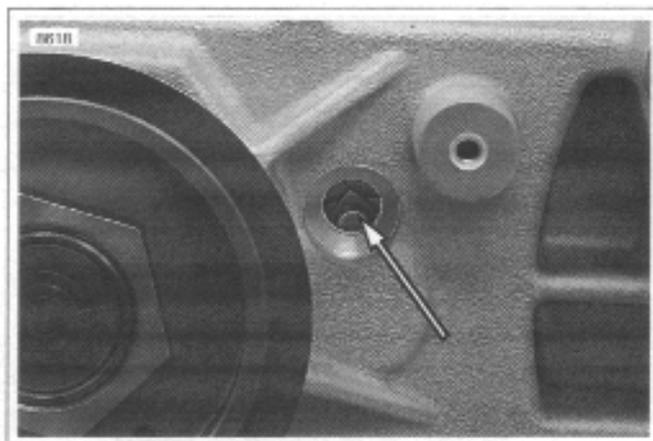

Figure 6-41. Shifter Drum Neutral Detent
9. See Figure 6-41. Place transmission in neutral. Remove neutral switch to ensure shifter drum detent is visible indicating transmission is in correct location.